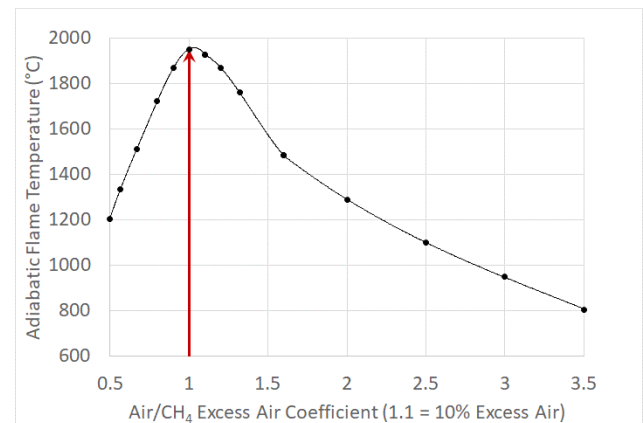

Fig 1
3. The maximum flame temperature also occurs when there is just the right amount of air for combustion, ie. there is no excess air (excess air coefficient is 1). If the flue gas products mass flow, \dot{m} , is increased by increasing the excess air co-efficient above 1, then the flame temperature is reduced as some of the energy from combustion is going into heating the additional air. If \dot{m} is reduced, such that the excess air coefficient is less than 1 and there is insufficient air for complete combustion, then the amount of energy released will be reduced, resulting in a lower flame temperature also. The effect of excess air on the adiabatic flame temperature for methane combustion in air is shown here in Figure 1. Due to less than perfect mixing in the real world, a small amount of excess air, say 10%, is required to ensure that complete combustion is achieved and the heat available to the product maximized.